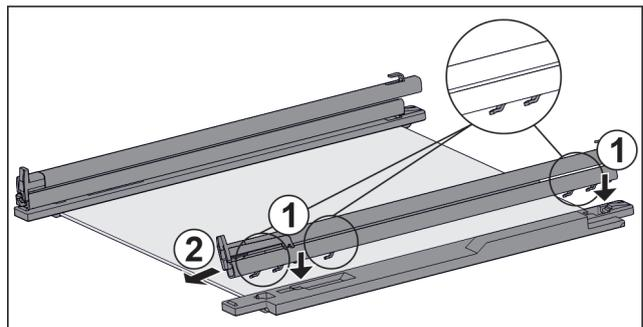

Fig. 69 Glass shelf with rails and retaining parts
- ▶ Place rail hooks onto the openings of the **left** retaining part. *Fig. 69 (1)*
- ▶ Push rail forwards. *Fig. 69 (2)*
- ▶ Place rail hooks onto the openings of the **right** retaining part. *Fig. 69 (1)*